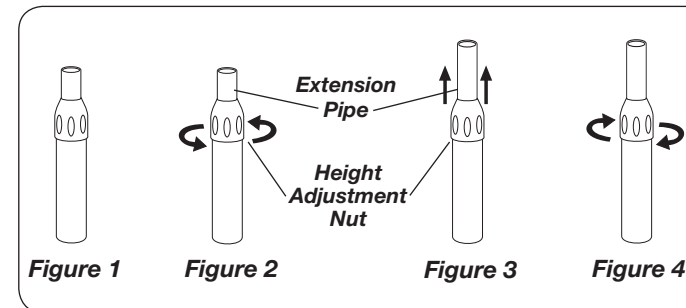

Figure 1 Figure 2 Figure 3 Figure 4
1. Take pipe assembly out of carton as shown. (Figure 1)